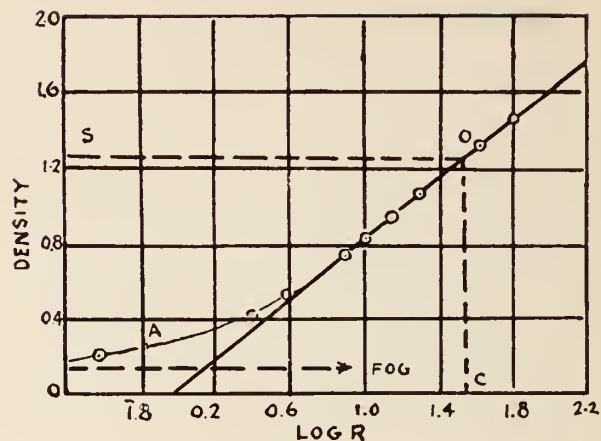

Fig. 2
The resulting density (D) values were read in the usual manner and plotted as a function of the logarithms of the reflection power ($\log R$) of the corresponding areas on the test chart. Since all other factors are constant, the exposure incident on the film is directly proportional to the reflecting power of the test chart areas, hence the $\log R$ values are directly proportional to $\log E$ and the curve thus obtained is therefore in the form of the usual density-log exposure characteristic of the photographic material. A curve similar to that shown in Fig 2 was obtained in this manner for each light source.